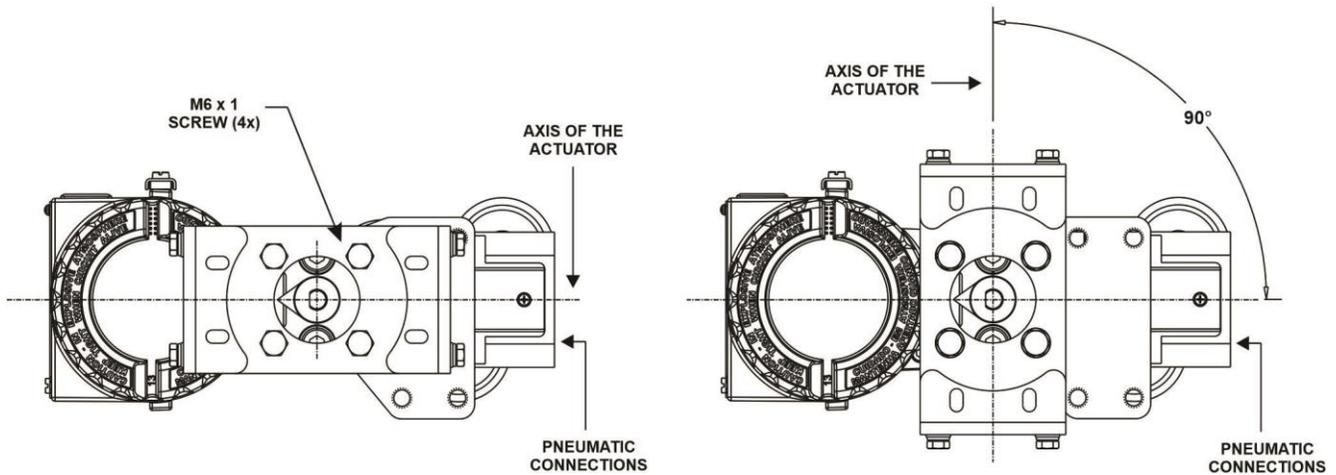

Figure 1.4 – Positioner assembly orientation relative to actuator axis
5. Position the FY500 on the actuator mounting bracket and secure in place with four M6 x 1 bolts. See figure 1.4.